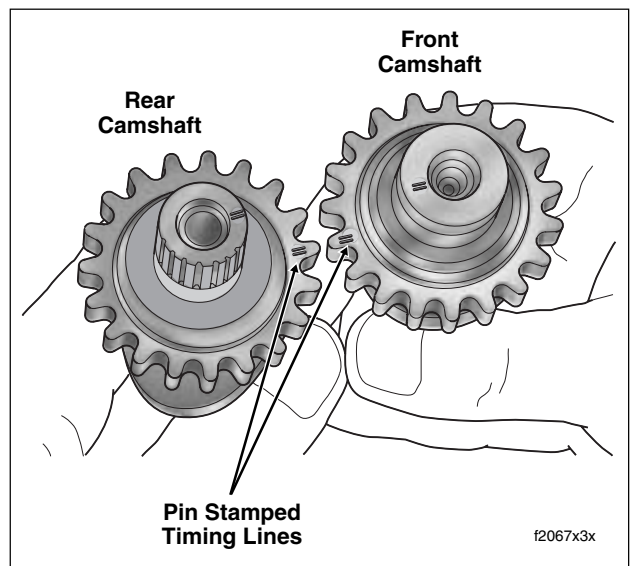

Figure 3-113. Align Timing Lines on Teeth of Camshaft Sprockets
9. Align pin stamped timing lines on teeth of secondary cam sprockets (outboard faces). See Figure 3-113. Using a colored marker, carefully mark the timing line locations on the inboard side of the sprocket teeth. These marks are needed to observe proper orientation of the camshafts when they are pressed into the bearings.